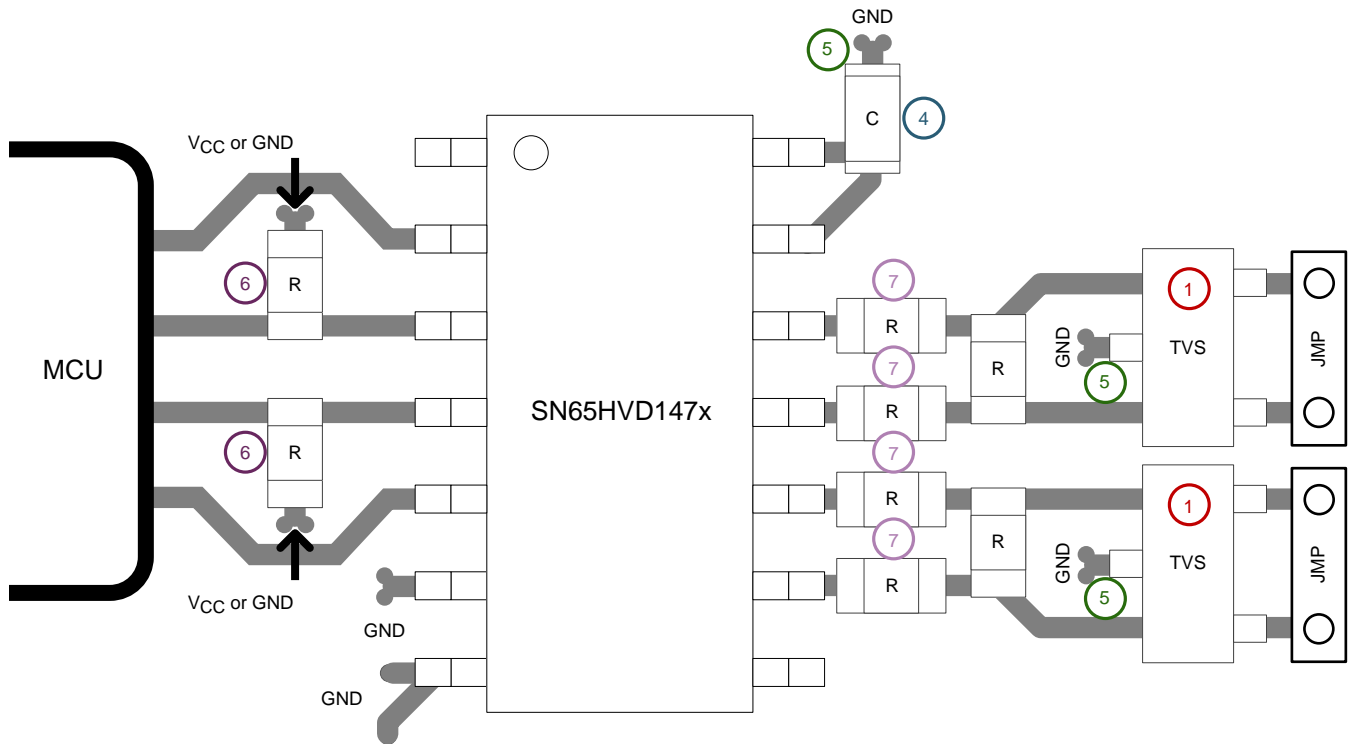

Figure 41. SN65HVD147x Layout Example
For successful PCB design, begin with the design of the protection circuit (see Figure 41).
4. Apply 100-nF to 220-nF bypass capacitors as close as possible to the  $V_{CC}$ -pins of transceiver, UART, controller ICs on the board (see Figure 41).
5. Use at least two vias for  $V_{CC}$  and ground connections of bypass capacitors and protection devices to minimize effective via-inductance (see Figure 41).
6. Use 1-k $\Omega$  to 10-k $\Omega$  pullup and pulldown resistors for enable lines to limit noise currents in these lines during transient events (see Figure 41).
7. Insert pulse-proof resistors into the A and B bus lines if the TVS clamping voltage is higher than the specified maximum voltage of the transceiver bus pins. These resistors limit the residual clamping current into the transceiver and prevent it from latching up (see Figure 41).